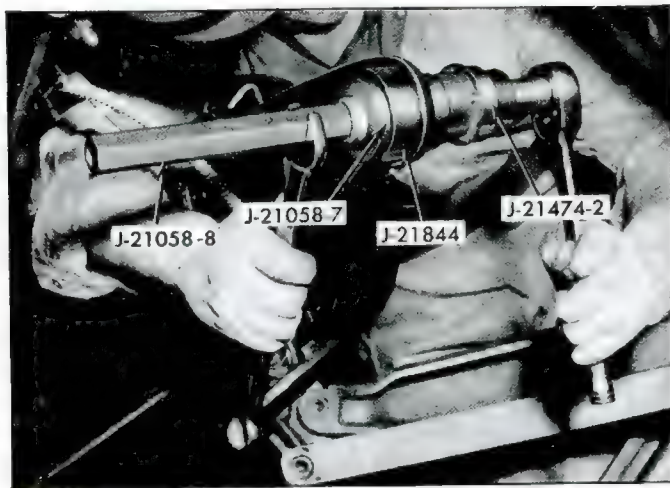

Fig. 81—Installing Torque Control Arm Bushing
4. Install new bushing to torque arm using tools as shown in Figure 81.